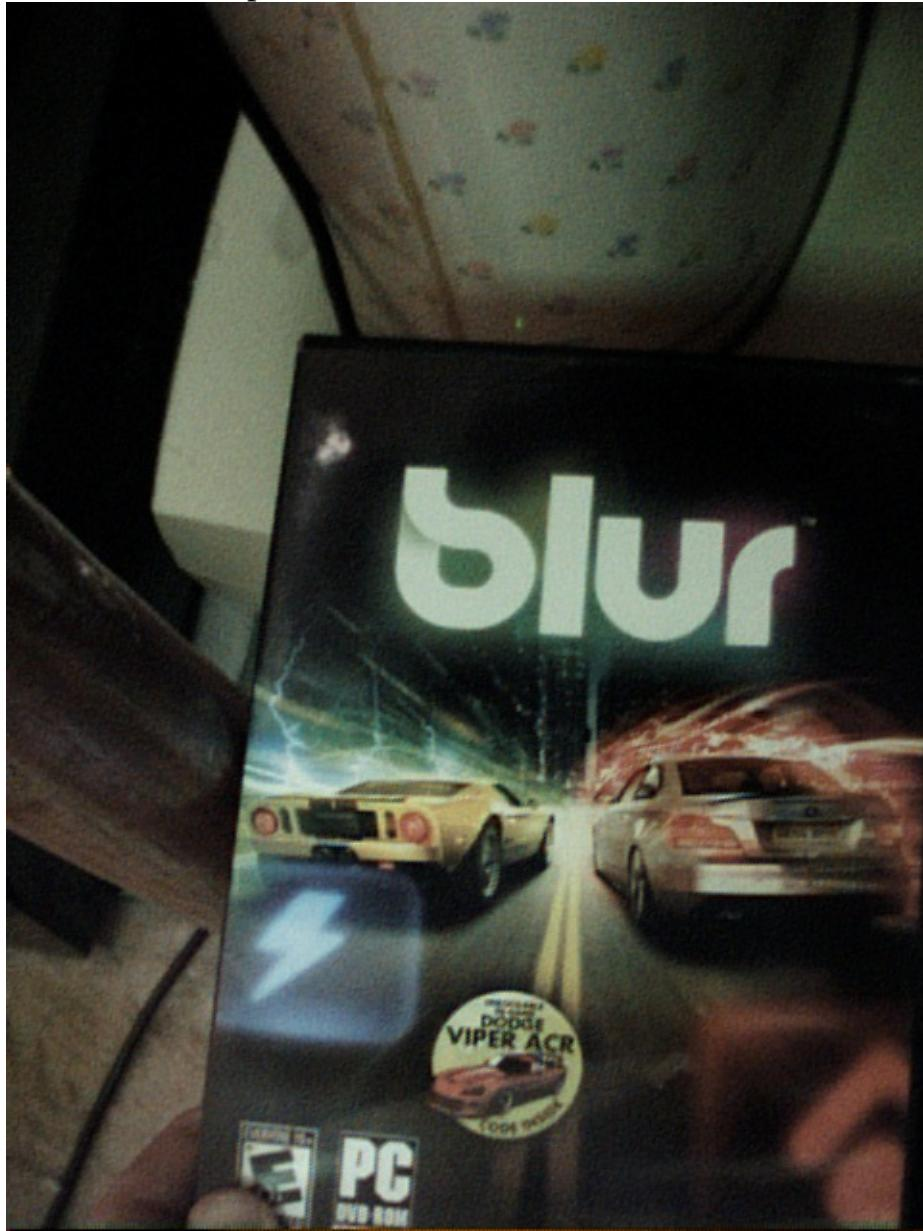

Figure 6-13. VGA photo with edge enhancement on
16. Next, take the photo by sending the Arduino the “t” value. The text output should be similar to previous examples. See Figure 6-13 for the photo I took using these camera settings. The key thing to note here is that there should be a section that shows that that edge enhancement is now active such as shown in the following: